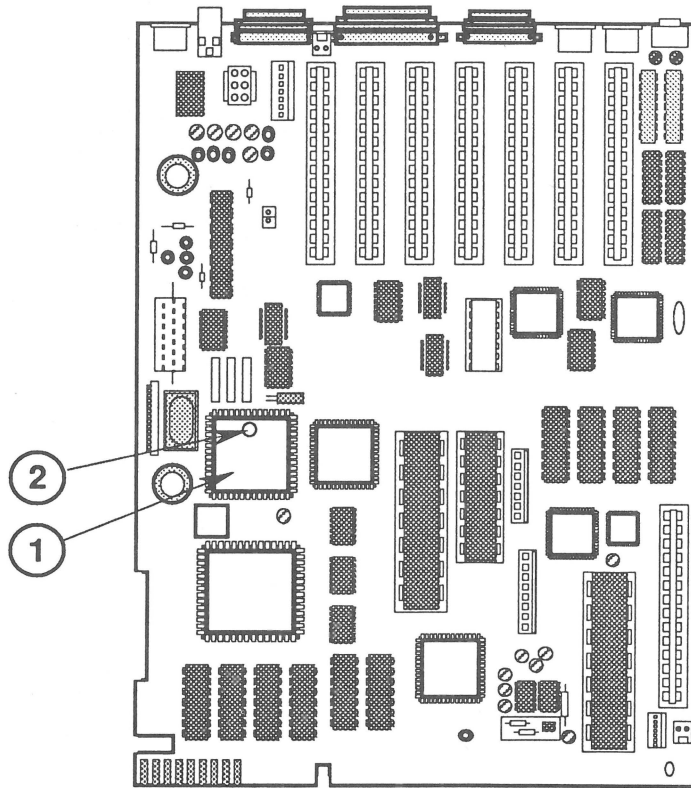

FIGURE 6
4. Locate the VGC at location H2 (Figure 6, #1) and verify that it needs to be replaced by comparing the vendor and number on the IC with the list above.
6. Remove the old VGC installed at location H2 (Figure 6, #1) using the VGC extraction tool.
7. Using the VGC extraction tool, install the new VGC in the same location, H2 (Figure 6, #1). The dot at pin 1 on the IC should face the rear of the machine (Figure 6, #2).